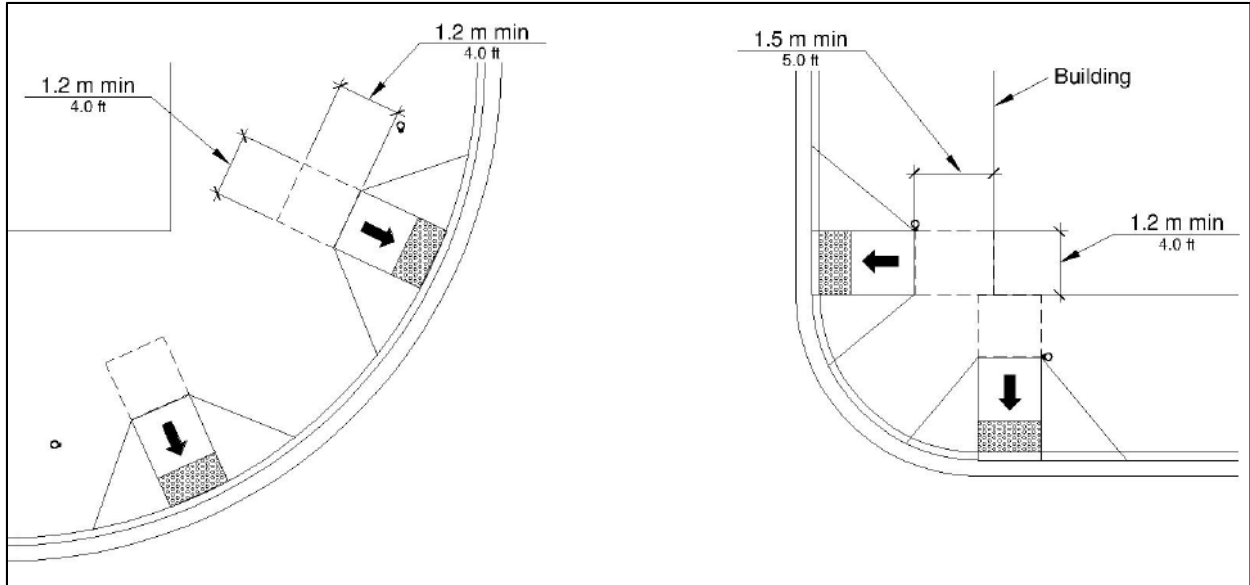

Figure 1A - Perpendicular Curb Ramps
- A turning space 5 ft. x 5 ft. minimum is provided at the top of each perpendicular curb ramp or the bottom of each parallel curb ramp (see **Figures 1A** and **1B**)